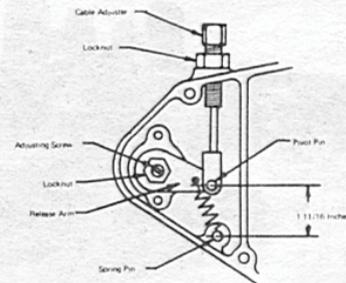

Fig. 23
- To adjust the Clutch (Figure 23)